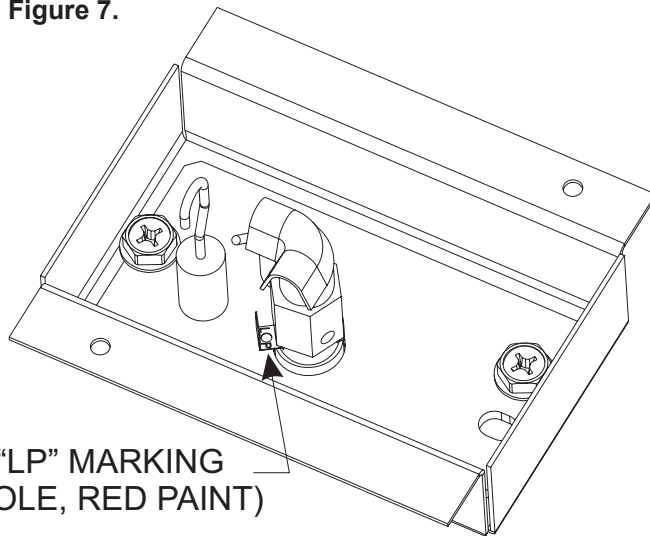

Figure 7
11. Using a 7/16 inch open wrench, loosen pilot body by slightly turning counter-clockwise. Slide orifice bracket to other side and tighten pilot body clockwise. **See Figure 7.**